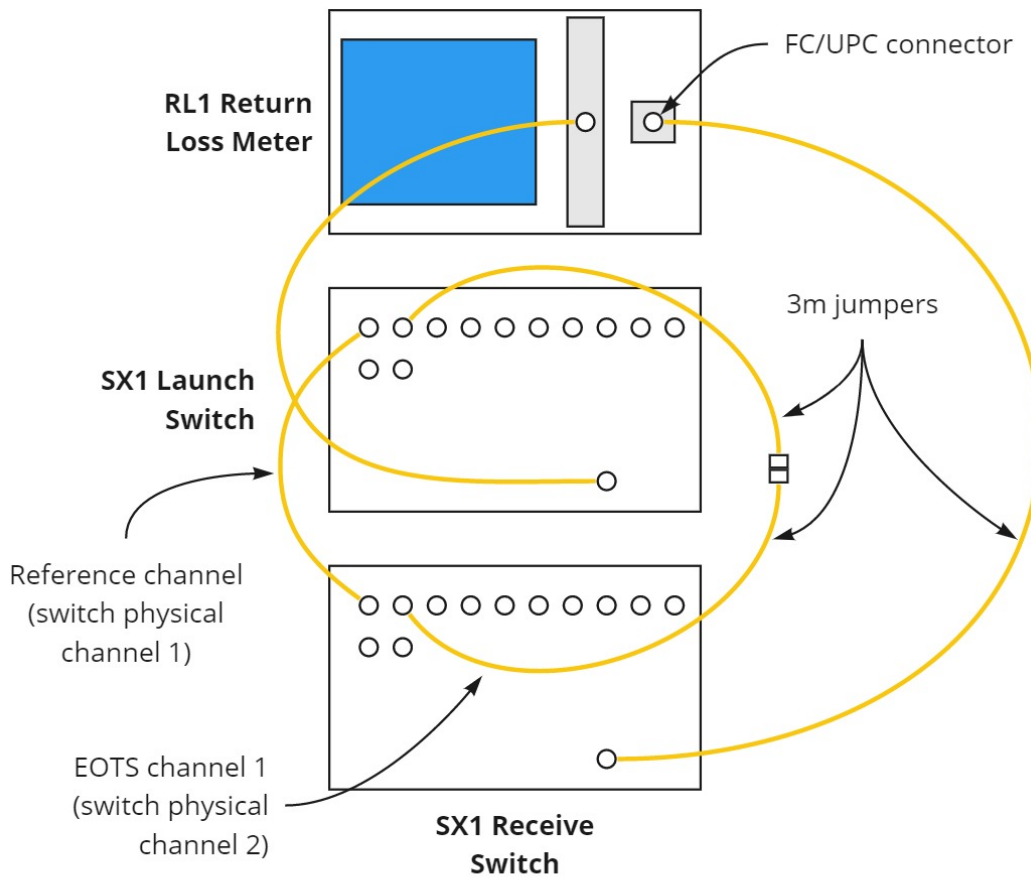

Figure 22: Direction 1 receive length connection diagram (single output RLM)
- If using a receive switch, inspect and connect two 3m jumpers between the launch switch channel 1 and receive switch channel 1 (Figure 22).